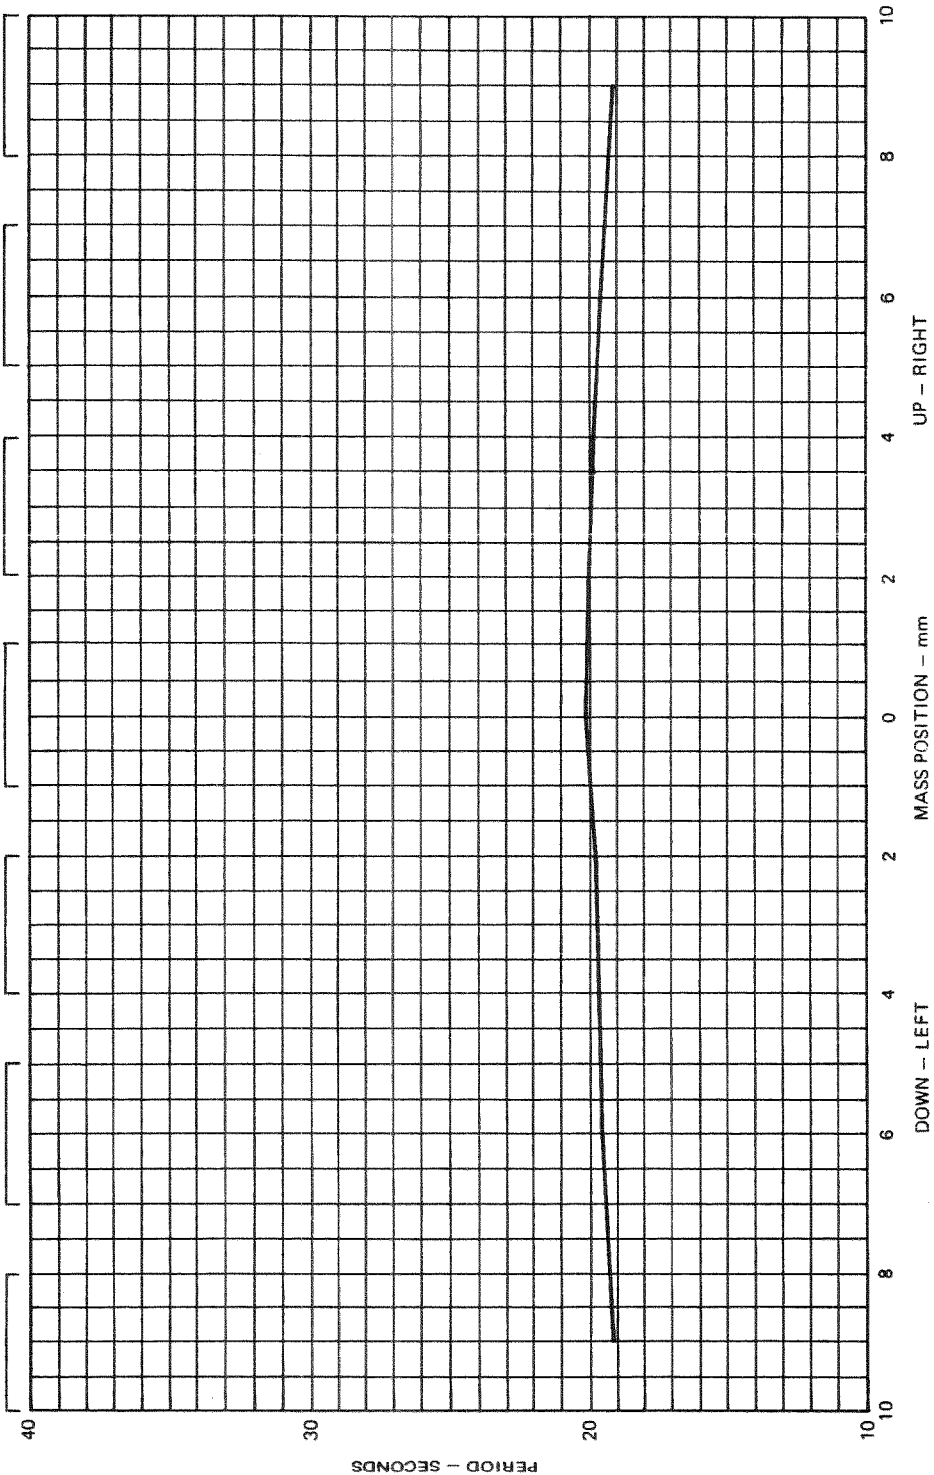

Figure 4. Typical period vs. mass position SL-210
a. Perform section 3.1, setting the natural period at the center to 20 seconds. Time the natural period at nine points along the scale. Plot period versus mass position on Form 281 (figure 4). One test point should fall under each bracket at top of the graph.